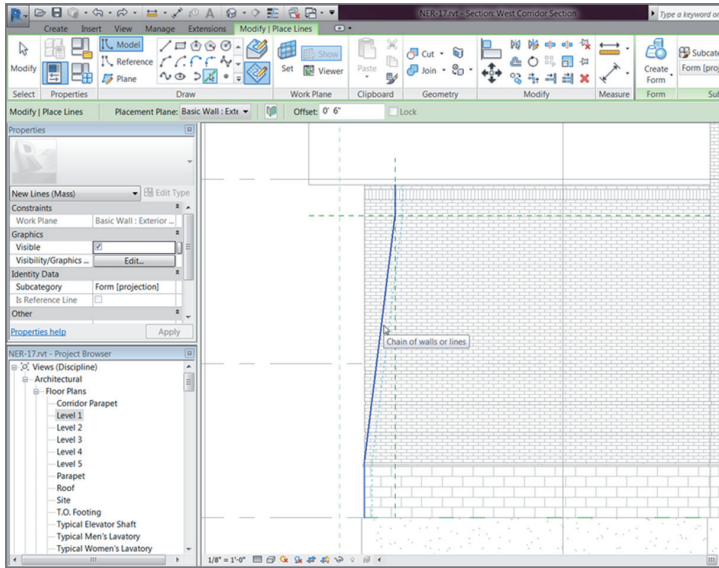

FIGURE BC1.44: Creating the thickness
12. Offset the three lines to the right, as shown in Figure BC1.44.